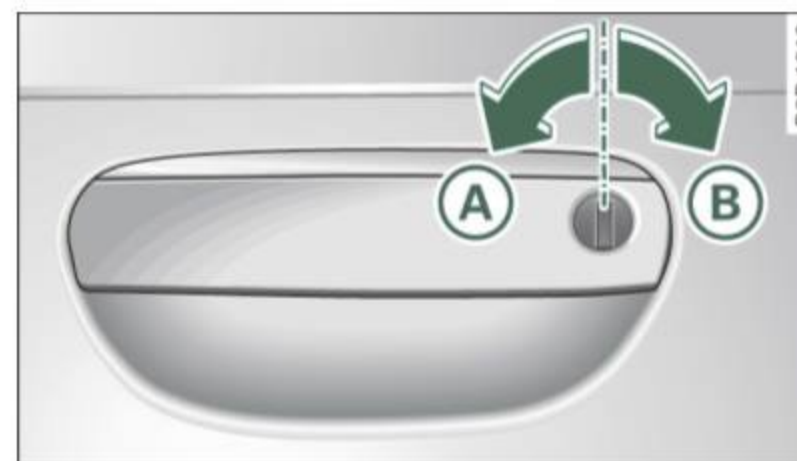

Fig. 30 Key turns for opening and closing.
- Turn the key to position  ⇒ fig. 30 to unlock the vehicle